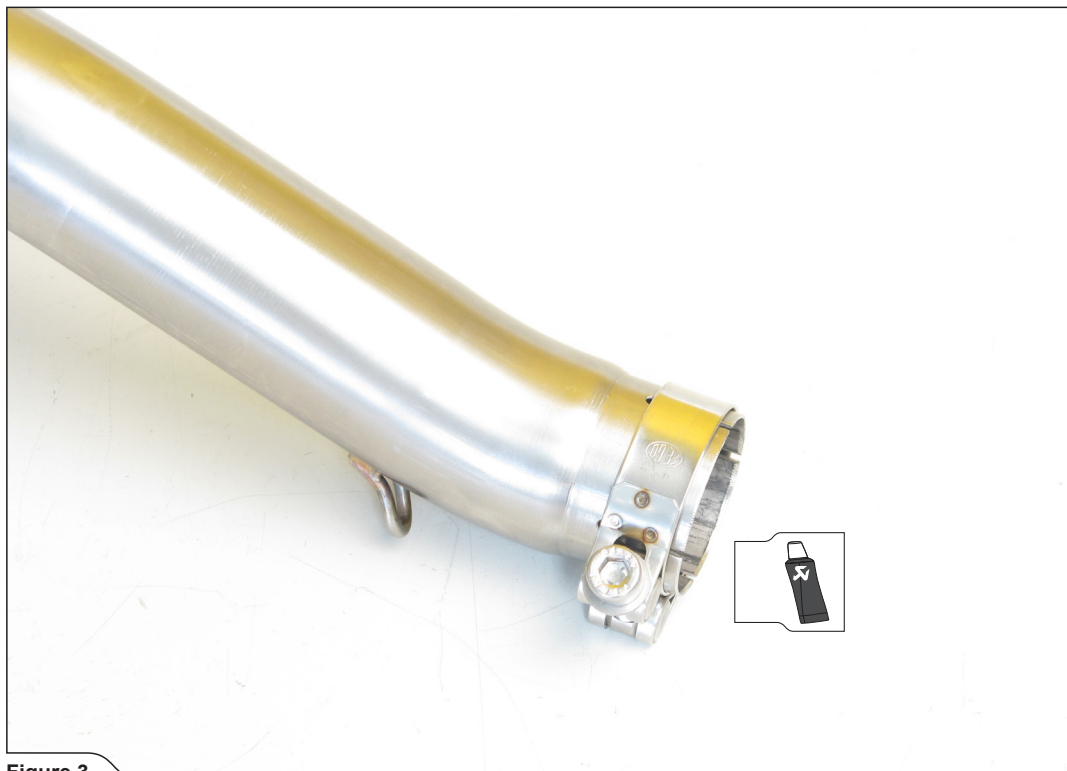

Figure 3
2. Assemble the clamp from Akrapovič installation kit onto the muffler's inlet pipe, as shown (Figure 3).